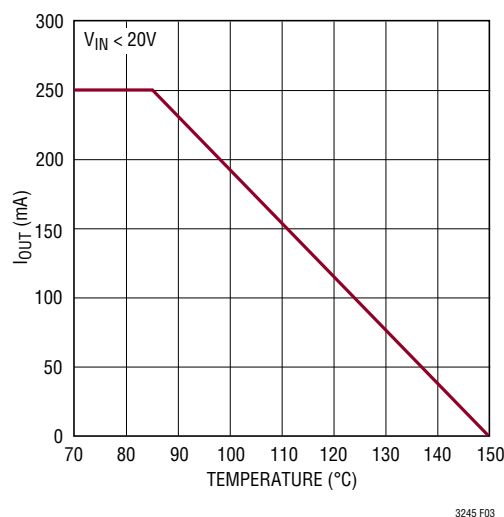

Figure 3. Available Output Current vs Temperature
Because of the wide input operating range it is possible to exceed the specified operating junction temperature and even reach thermal shutdown. Figure 3 shows the available output current vs temperature to ensure the 150°C operating junction temperature is not exceeded for input voltages less than 20V.
Figure 3 assumes worst-case operating conditions. Under some operating conditions the part can supply more current than shown without exceeding the 150°C operating junction temperature. When operating outside the constraints of Figure 3 it is the responsibility of the user to calculate worst-case operating conditions (temperature and power) to make sure the LTC3245's specified operating junction temperature is not exceeded for extended periods of time. The 2:1 Step-Down, 1:1 Step-Down, and 1:2 Step-Up Charge Pump Operation sections provide equations for calculating power dissipation (PD) in each mode.